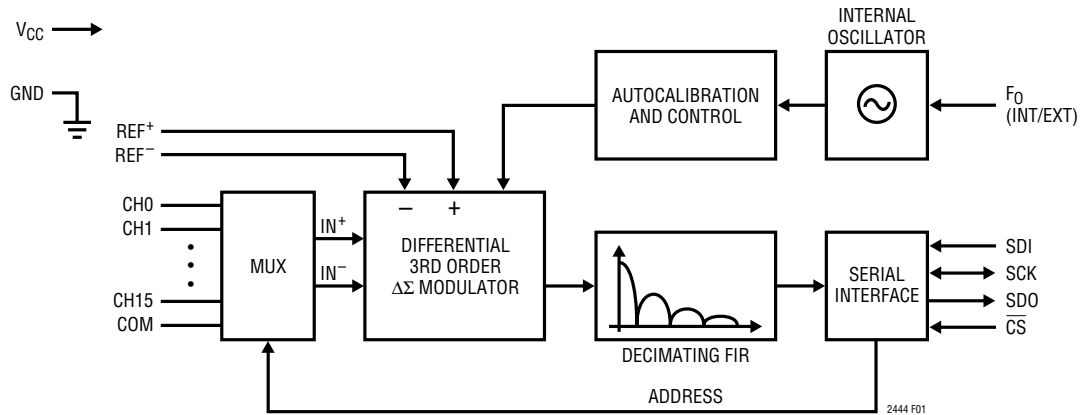
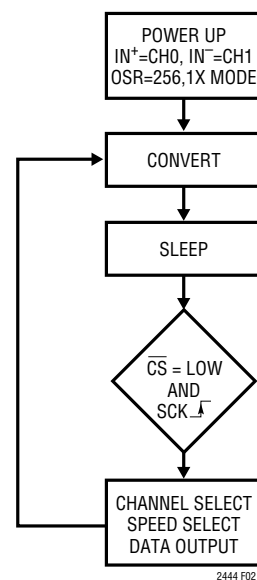

Figure 1. Functional Block Diagram
Figure 2. LTC2444/LTC2445/LTC2448/LTC2449
The LTC2444/LTC2445/LTC2448/LTC2449 are multi-channel, high speed, delta-sigma analog-to-digital converters with an easy to use 3- or 4-wire serial interface (see Figure 1). Their operation is made up of three states. The converter operating cycle begins with the conversion, followed by the low power sleep state and ends with the data output/input (see Figure 2). The 4-wire interface consists of serial data input (SDI), serial data output (SDO), serial clock (SCK) and chip select (CS). The interface, timing, operation cycle and data out format is compatible with Linear's entire family of  $\Delta\Sigma$  converters.